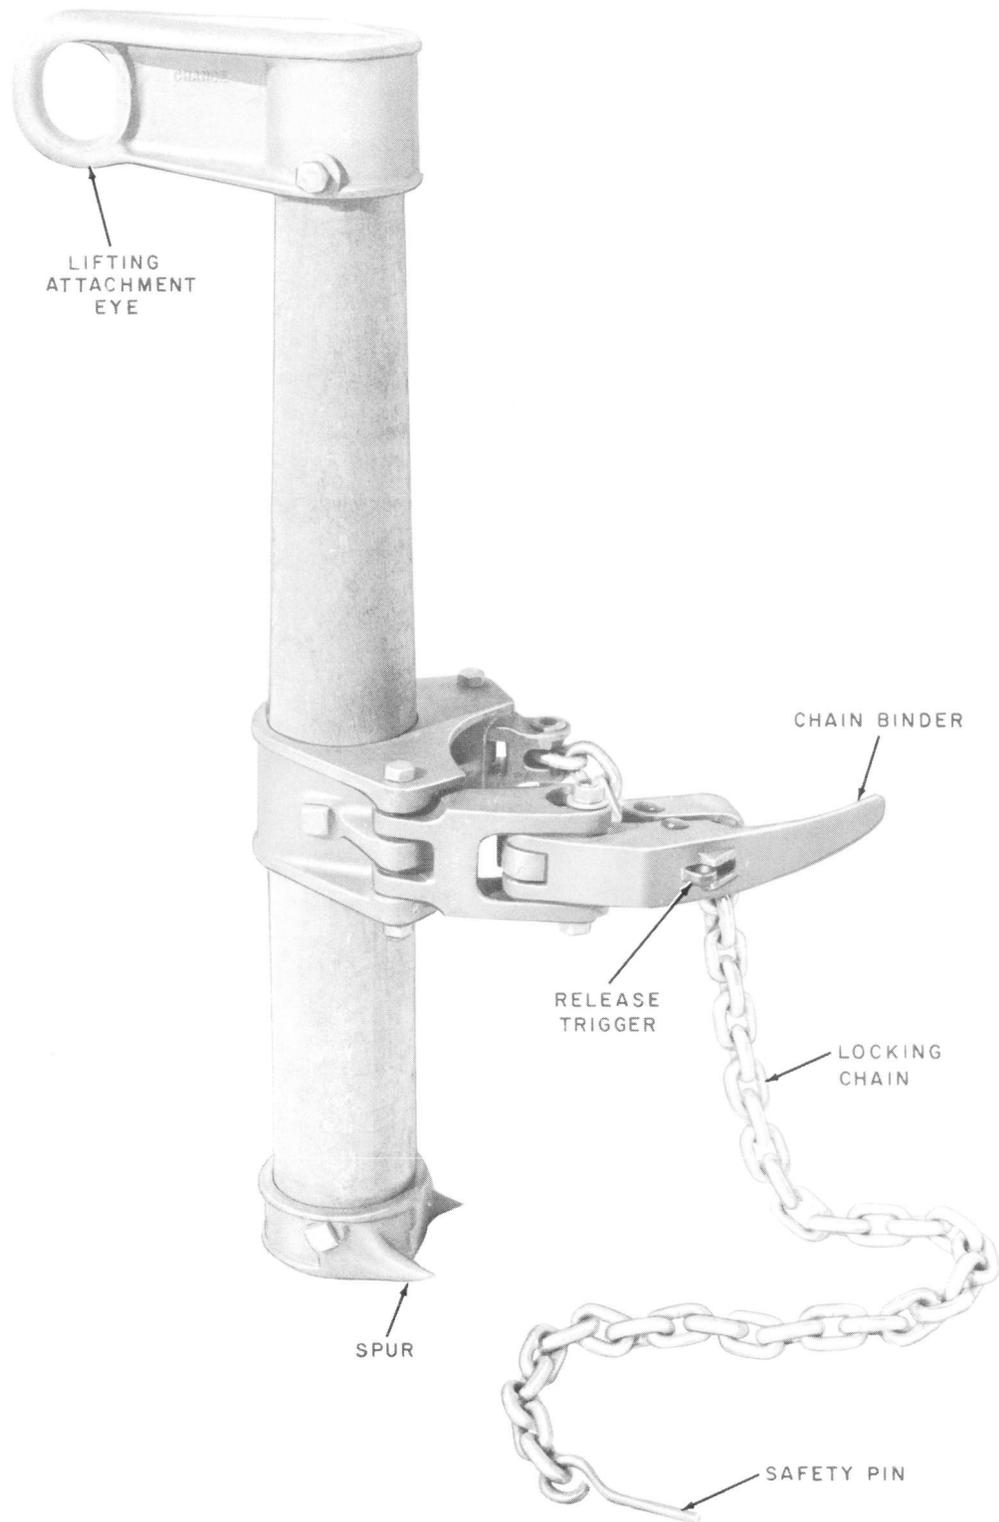

Fig. 1—Pole Top Gin
2.01 The B Pole Top Gin consists of a cast aluminum arm provided with an eye for lifting attachments, a laminated hardwood mast, and a lever-type chain binder for securing the gin to the pole (Fig. 1).